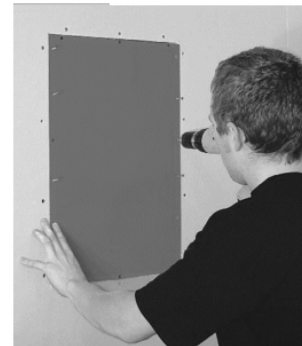

Figure 6
- Attach the speaker panel screw flanges directly to the structural framing using the provided wallboard screws (See Figure 6). The panels have been pre-drilled with the proper number of holes. Be sure that all of the screws are installed and that they hold securely to the framing.